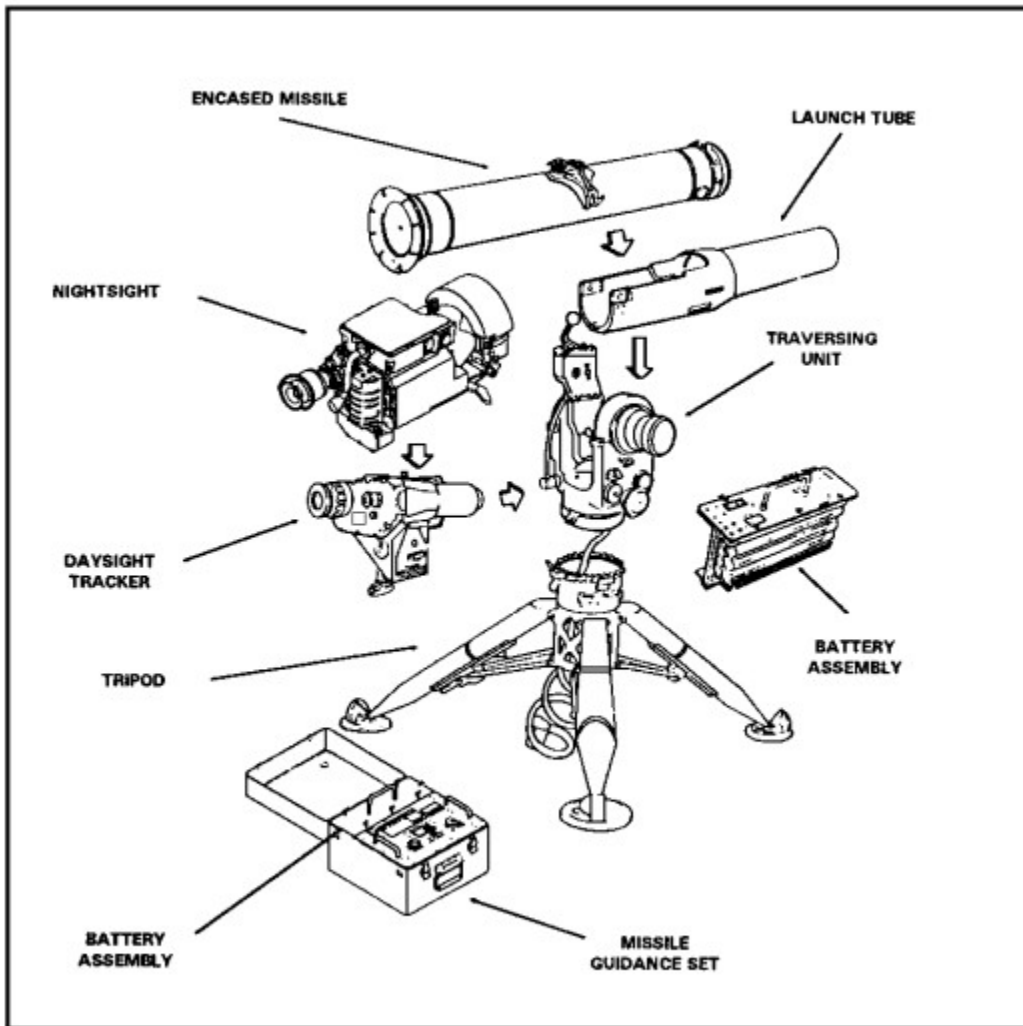

Figure 1-16. M220A2 TOW 2 Components.
b. M220A2 TOW 2 Weapon System. The M220A2 is a combination of both a modification to the M220A1 TOW launcher and the addition of a new missile. The M220A2 TOW 2 launcher modified the M220A1 TOW components below (shown in Figure 1-16) to form the M220A2 TOW 2 launcher: